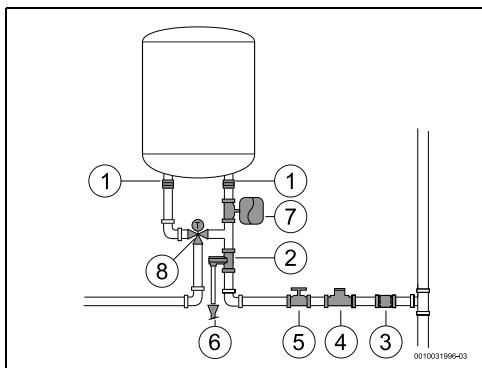

Fig. 11
- ▶ Close the water shut-off valve (→ Fig. 11, [5]).
- to install a pressure reducing valve (Fig. 11, [4]). The pressure relief valve will activate whenever the water pressure in the appliance is above 8 bar ( $\pm 1$  bar), for which reason it is necessary to plan a way of draining off this water.
- install an expansion vessel (Fig. 11, [7]) to stop the pressure relief valve opening so frequently. The volume of the expansion vessel should be equivalent to 5% of the volume of the appliance.